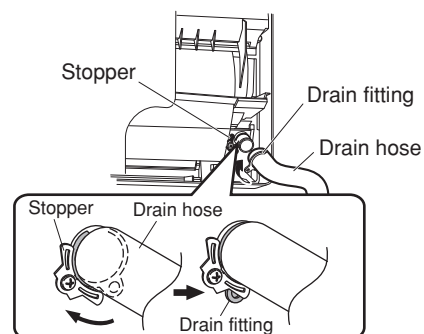

Fig. 39d
- (c) When disconnecting the drain hose, remove the drain fitting from the stopper, then check the position of the drain fitting on the end of the hose, and turn the hose while pulling to remove it. (Fig. 39d)
- (d) Screw the drain hose all the way inside. Turn the hose so that the protruding part of the drain fitting comes below the stopper as shown in the figure. It will be easy to insert when water is added. (Fig. 39d)